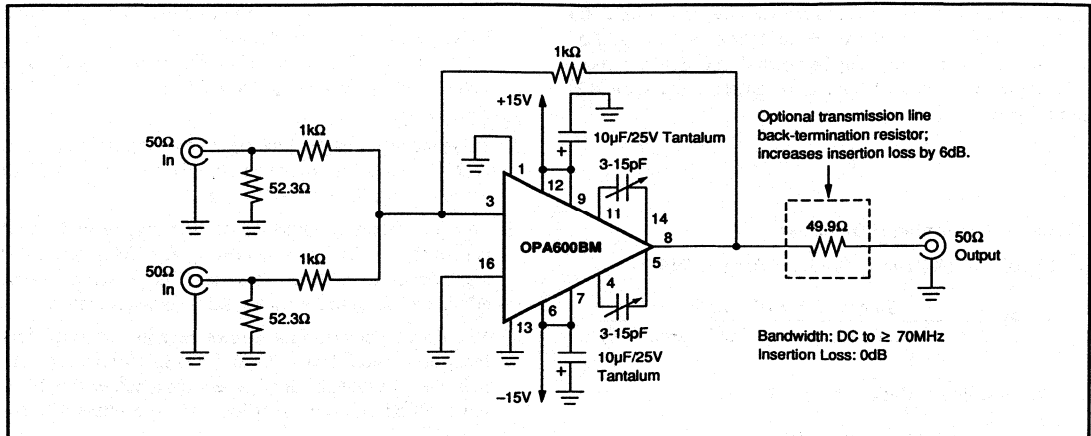
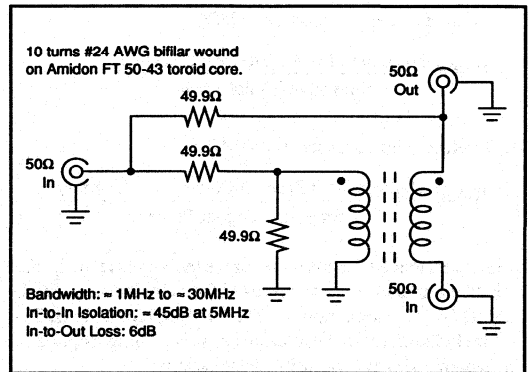

FIGURE 5. Active Signal Combiner.
FIGURE 6. Passive Signal Combiner.
7. Two-tone testing will require isolation between test signal generators to prevent IMD generation in the test generator output circuits. An active summing amplifier using an OPA600 is shown in Figure 5. This circuit will provide excellent performance from DC to 5MHz with harmonic and intermodulation distortion products typically better than -70dBC. A passive (hybrid transformer) signal combiner can also be used (Figure 6) over a range of about 0.1MHz to 30MHz. This combiner's port-to-port isolation will be ≈45dB between signal generators and its input-output insertion loss will be ≈6dB. Distortion will be better than -85dBC for the powdered-iron core specified. Avoid ferrites.